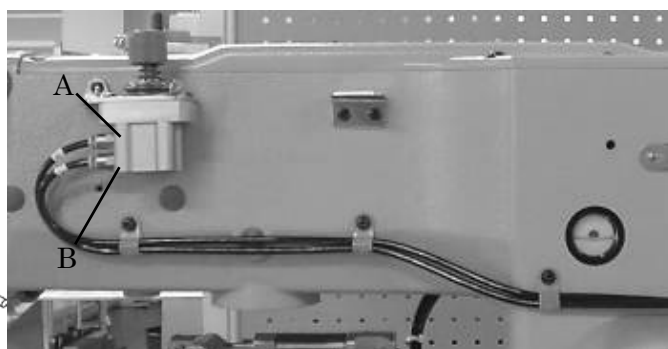

Fig.3
- (4) Secure the sewing machine right air tube using the nylon clips of accessory ,as shown in Figure 3.